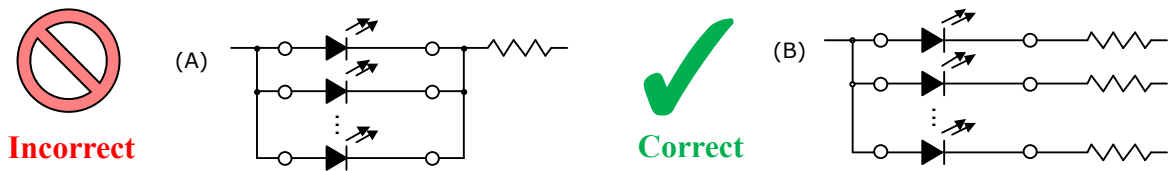

Figure 15. Circuit Configuration for the COB LEDs
If the COB LEDs are connected in parallel with each other, the current flow to each one can vary depending on the forward voltage (V_F) variation among them. See Figure 15 (A).